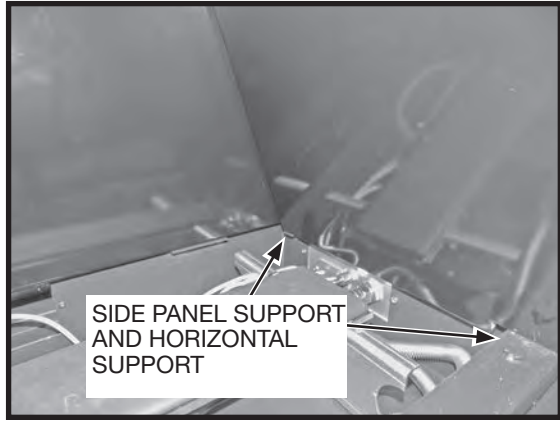

Figure 55: Right side panel.
4. While supporting the back panel insert one of the side panels into the firebox. Place the rear end of the side panels on to the side panel supports and rest the front end of the panels on the horizontal support (Figure 55).